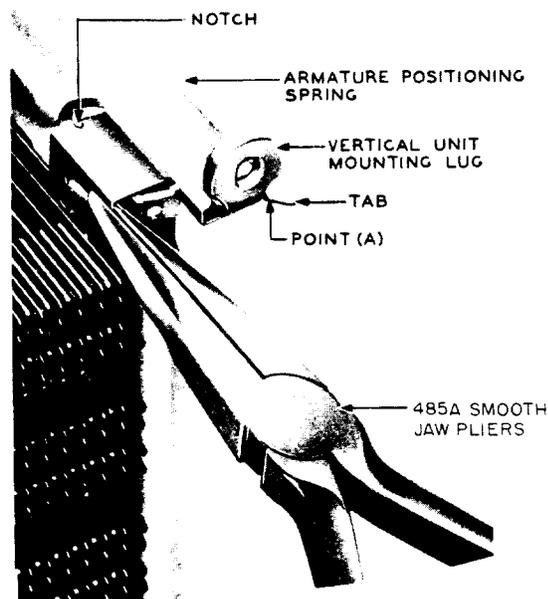

Fig. 10 – Method of Mounting Armature Positioning Spring
(2) To mount the armature positioning spring, grasp it with the smooth-jaw pliers as shown in Fig. 10 and push it straight onto the vertical unit until the notched portion of the spring engages the frame of the vertical unit and the tab locks behind the vertical unit mounting lug. Then while still grasping the spring with the pliers, check whether it is locked on the vertical unit by attempting to pull the spring forward. If properly locked, the spring will stay on the vertical unit. In some cases the spring may bind against the vertical unit mounting lug at point (A) in Fig. 10. When this occurs, do not attempt to force the spring into place, but shift the pliers to the tab as shown in Fig. 10 and press the tab inward and twist it slightly to the left. Then check as above to determine whether the spring is properly locked on the vertical unit.